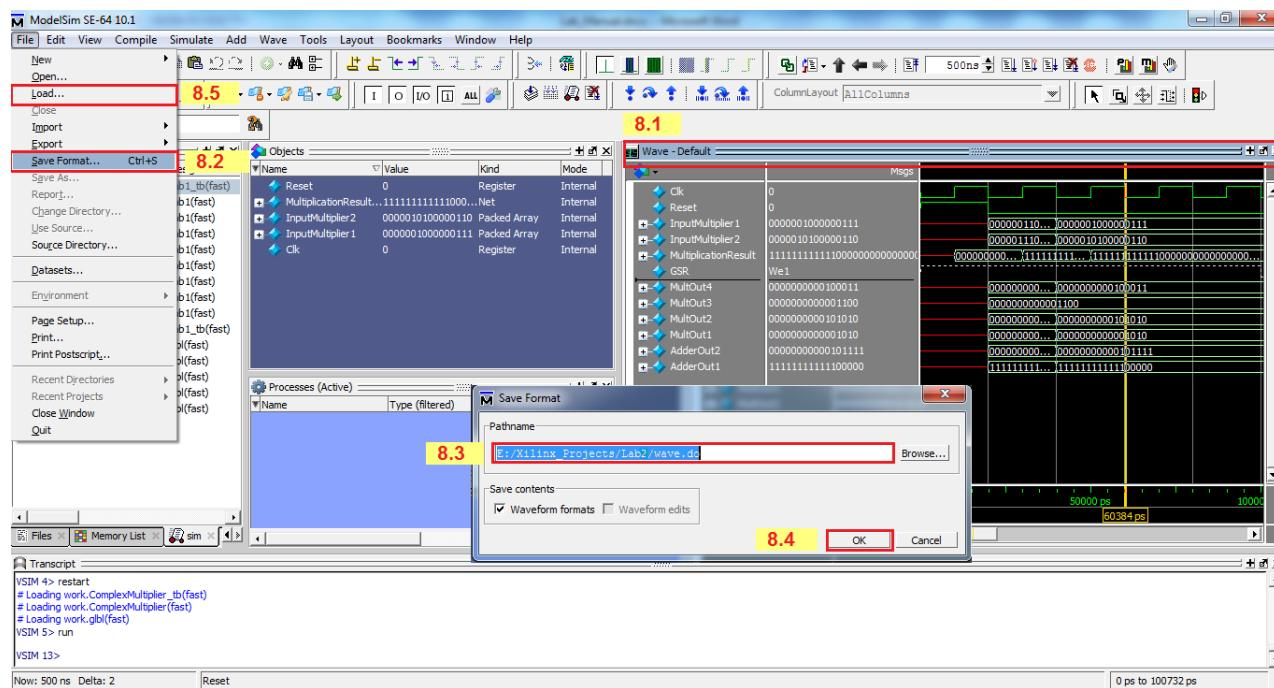

Figure 14.
8. Saving the Simulation (Figure 14)